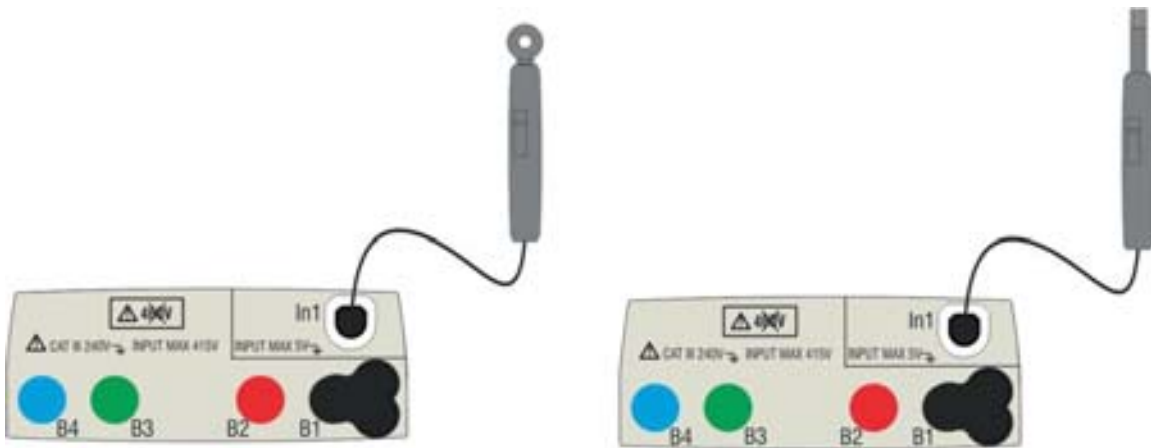

Fig. 33: Measurement of environmental parameters through external probes
3. Insert in the auxiliary **In1** input the transducer necessary for the desired measurement as shown in Fig. 33